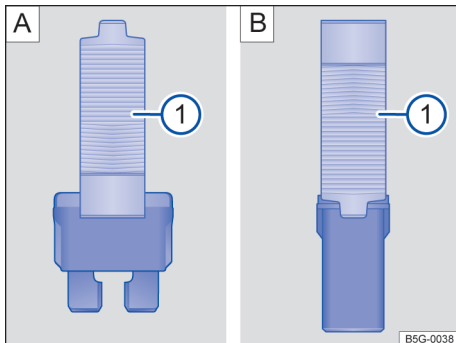

Fig. 127 Plastic grippers for pulling out and inserting a fuse: **A** a flat blade fuse, **B** a cartridge fuse
- Adjust the plastic gripper to the position that fit → Fig. 127 **A**(1) or → Fig. 127 **B**(1) depending on the fuse type, and clamp the fuse from the side.